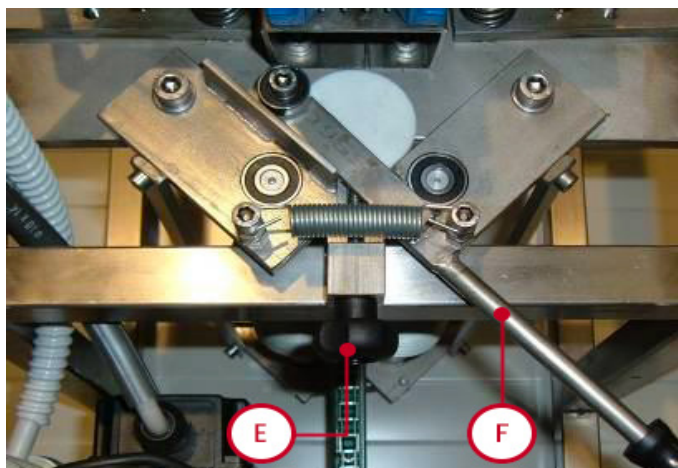

Fig. 3
3.2 ROTARY BLADES (fig. 3)
To adjust position of the rotary blades, act on knob (E) at frame outlet position (see fig. 3). By fully tightening the knob, it is also possible to totally disable the rotary blade device. Lever (F) allows to quickly separate the blades to facilitate the extraction of a frame or in the case of reversal of chain motion direction. The action of the rotary blades can also be excluded in a practical and fast way, using the lever stop placed next to it.